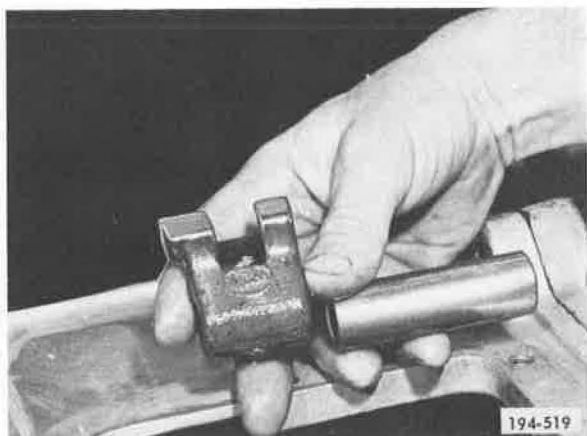

Figure 406. Installing Spacer and Shifter.
24. (Forward Controls Only) Install reverse lockout spacer and first speed shifter onto end of first speed shift rail. See Figure 406.